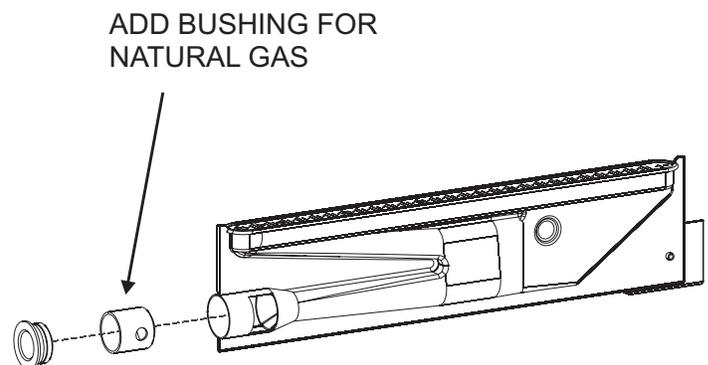

Figure 45
8. Remove front burner (one (1) screw).
10. Insert natural gas front burner bushing into throat (Venturi) of front burner. See Figure 45.
11. Replace front burner with one (1) screw from Step 8.
12. Remove rear burner (one (1) screw).
14. Replace rear burner with one (1) screw from Step 12.
16. Install log plate into fireplace with twelve (12) screws from Step 7.
18. Close front door by securing four (4) door latches.